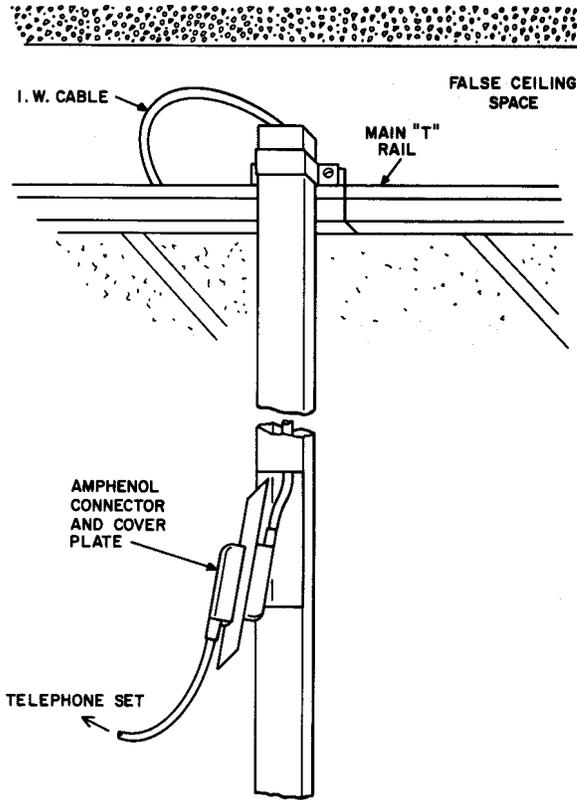

Fig. 10—Utility Column Installation
11.04 The utility columns should be attached, or supported, by the main "T" rails in the ceiling as shown in Fig. 10. It is not recommended that these columns be attached to the transverse or cross rails unless these rails are rigidly anchored to the main "T" rails.